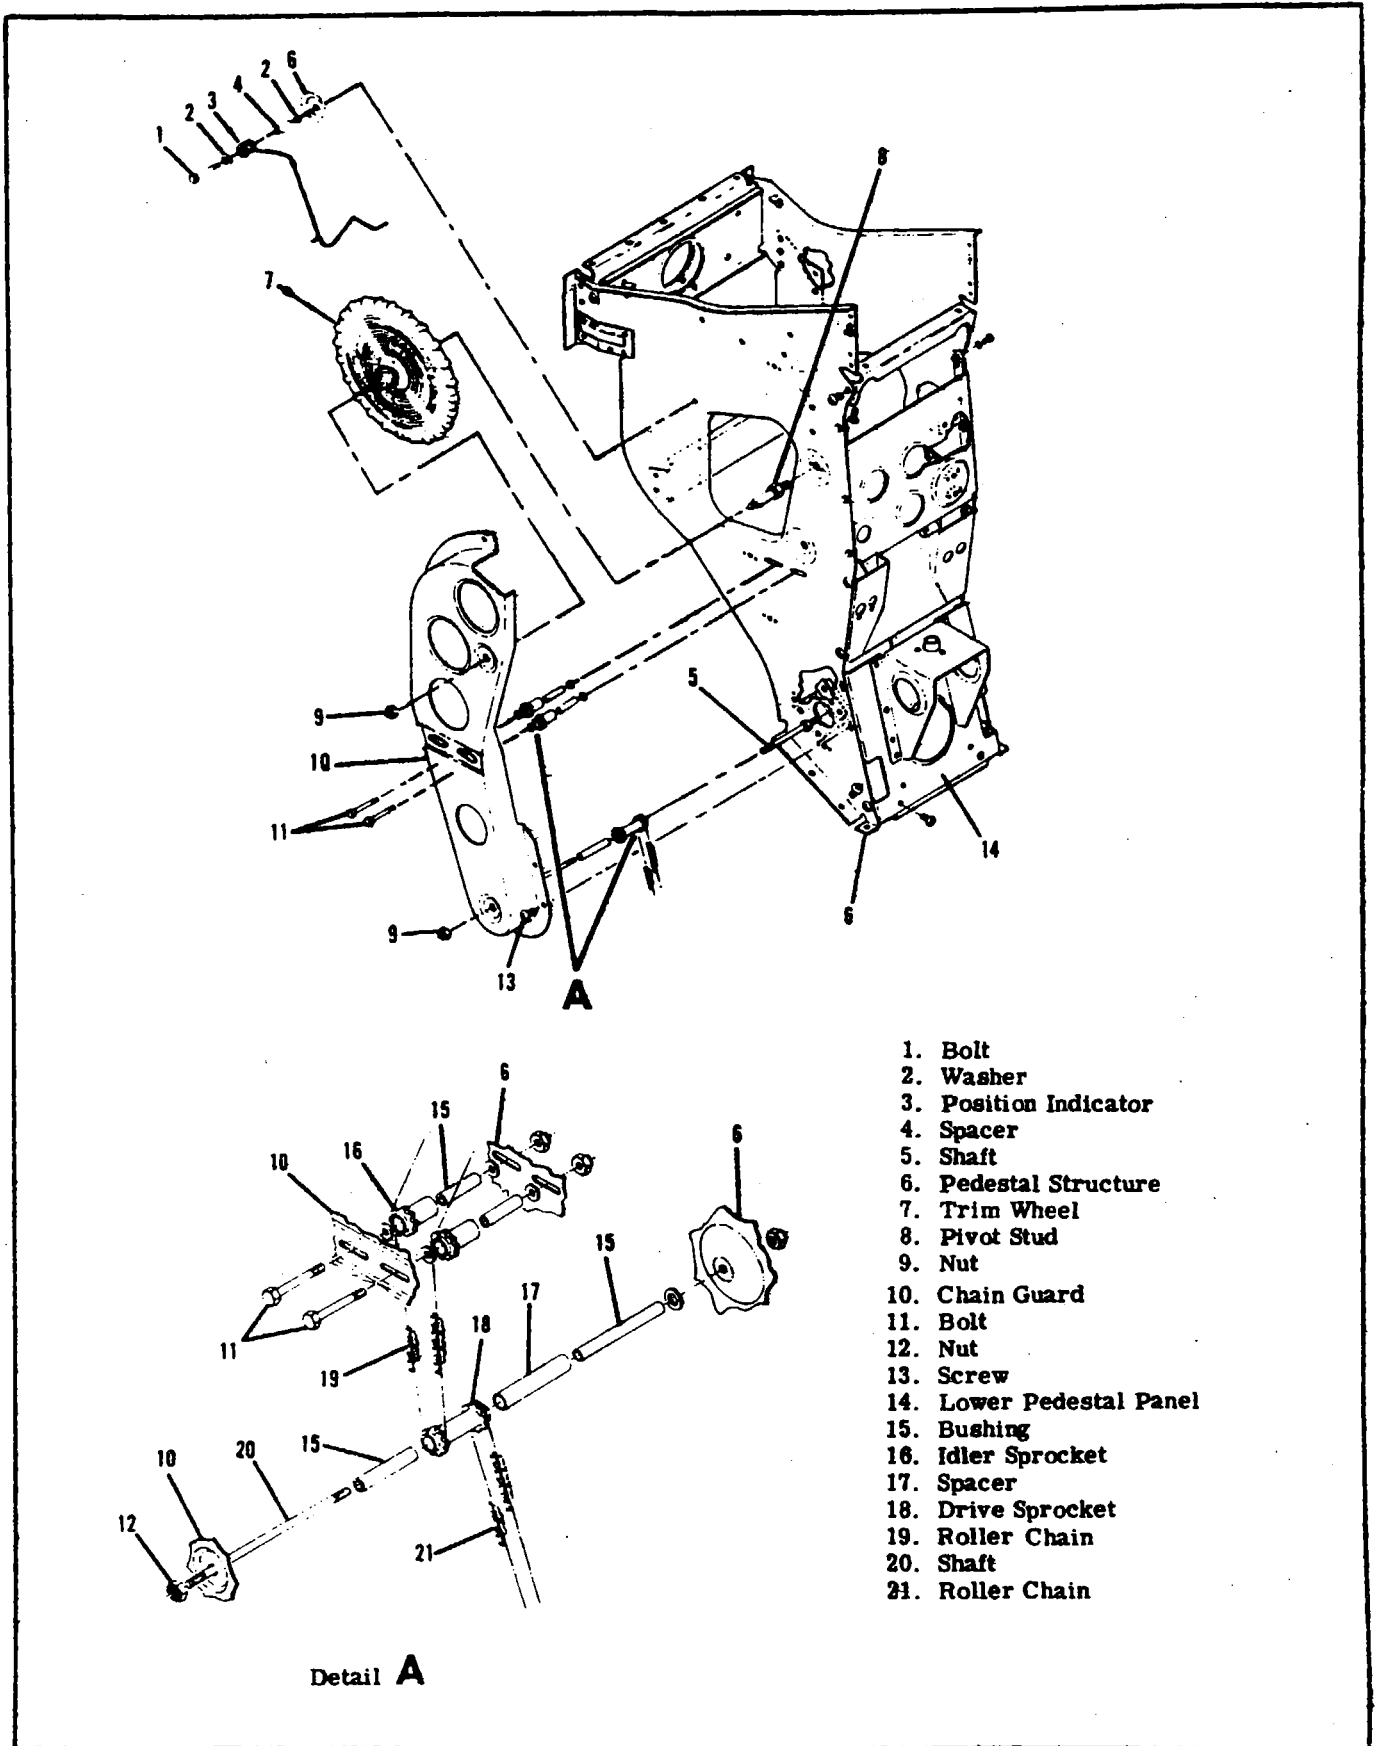

Figure 9-4. Elevator Trim Wheel Installation
9-8. TRIM TAB CONTROL WHEEL. (Refer to figure 9-4.)
2. Remove safety wire, relieve cable tension and disconnect turnbuckle (8).
3. Disconnect cable ends (10).
4. (Refer to figure 9-4.) Remove pedestal cover as outlined in paragraph 9-14.
5. Remove lower pedestal panel (14) and disengage roller chain (21) from drive sprocket assembly (18).
8. After cable is routed into position, install pulleys (6) and cable guards (4). Ensure cable is positioned in pulley grooves before installing cable guards (4). Ensure roller chain (Index 21, figure 9-4) is positioned correctly over drive sprocket (Index 18, figure 9-4).
9. Rerig system in accordance with paragraph 9-15, safety turnbuckle (8), and reinstall all items removed for access.
- e. (Refer to figure 9-4.) Rotate trim wheel (7) full forward (nose down). Ensure position indicator (3) does not restrict trim wheel movement. If necessary to reposition indicator, proceed as follows:
2. Loosen nut (9) at trim, wheel pivot stud (8).
3. Loosen screws (13) securing chain guard (10) far enough that trim wheel (7) can be moved approximately 1/8-inch, then reposition position indicator (3) using a thin screwdriver to pry trailing leg of pointer out of groove in trim wheel. Reposition position indicator as required.
4. Tighten nut (9) and screws (13) but do not reinstall pedestal cover until rigging is complete.